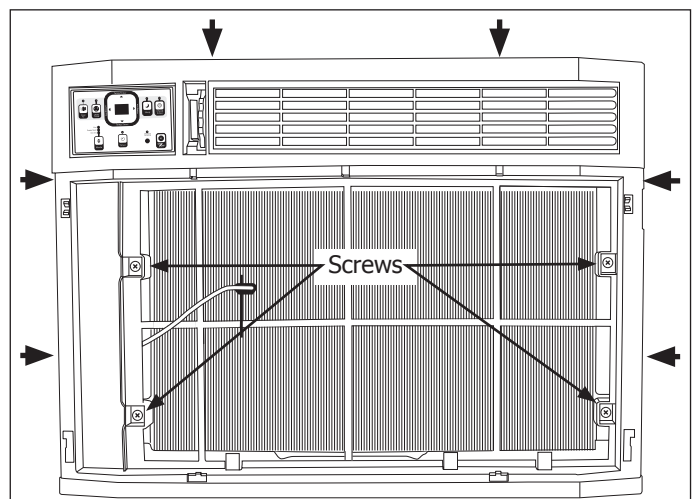

Figure 4-2.
7. Remove the front panel by pulling the front panel outer edges away from the unit frame until the tabs are free of the slots. (See Figure 4-2, Arrows show tab locations) Release the four side tabs first then lift the front panel upwards until the front panel is free.